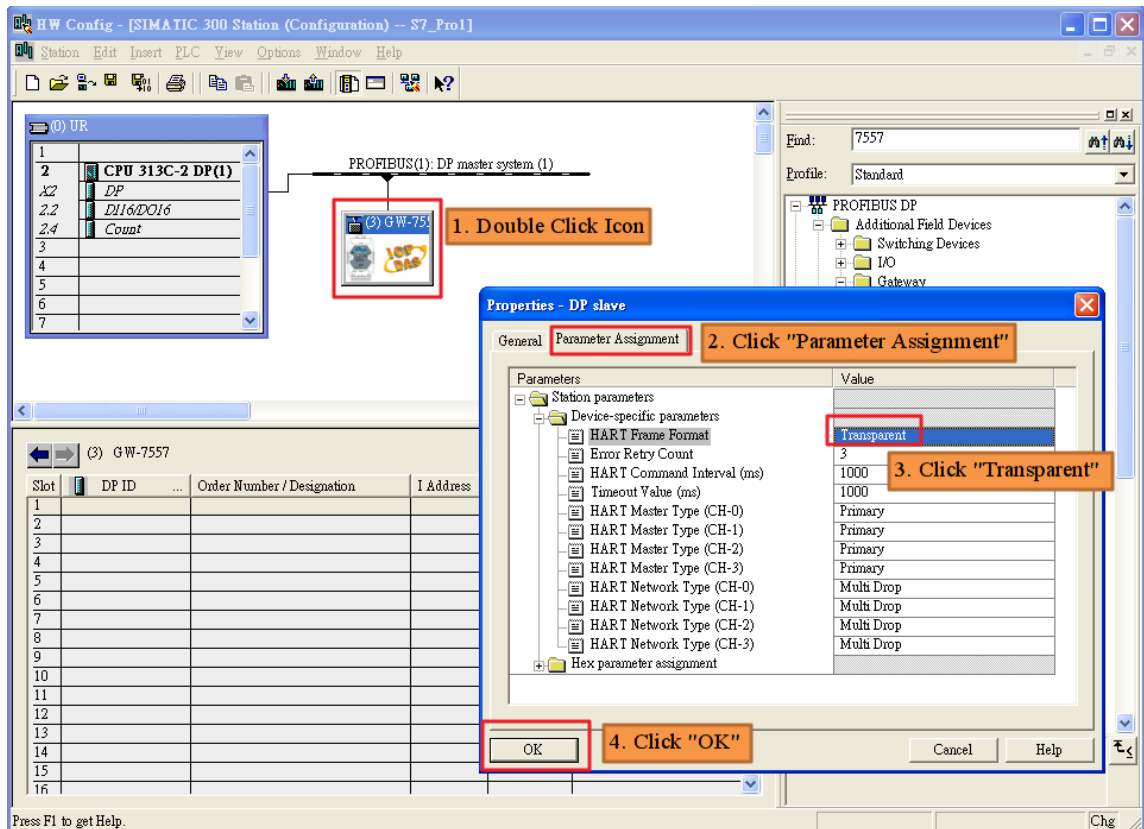

Figure 24 Parameter settings of GW-7557
Step 3: Set the parameters of the GW-7557. We just need to change “HART Frame Format” to Transparent and the default setting is being used in the other parameters for this example. Please refer to section 4.3 the Configuration of the common parameters. The users can set parameters as shown in the below (*Figure 24*).